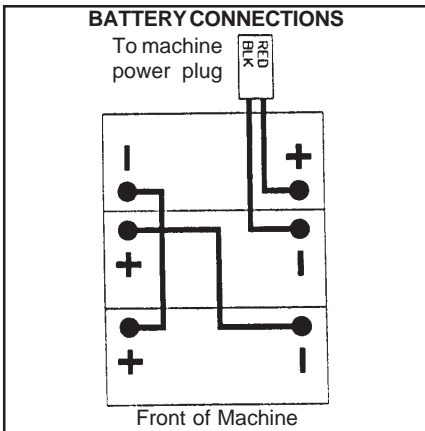

Figure 13
6. Place the batteries in the tray as shown in figure13
7. Connect the battery cables between batteries as shown. See figure 13.